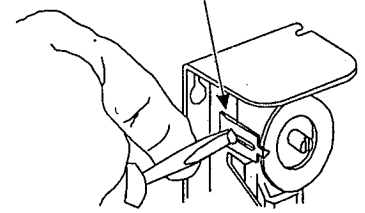

Fig. 4 – The controls have a screw type setpoint stop. Loosen and move the stop screw to the desired setting, and then tighten screw.
3. Loosen the stop screw, slide the screw to the front of the control against the plastic step behind the dial and tighten the screw (Fig. 4). Sometimes an exact stop setting is not possible and the stop must be set to the closest step corresponding to the dial setting required.